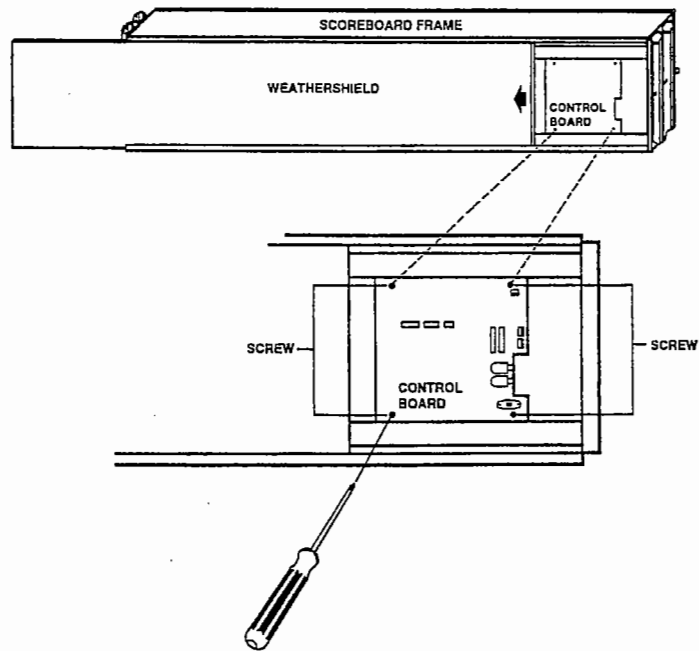

Figure 19
1. Remove power to the scoreboard, see Fig. 19 on the following page. (See Step 1 above under "How to remove a digit.")